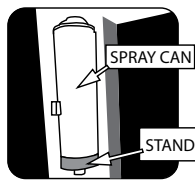
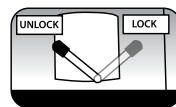

FIG. 4
FIG. 5
7. Move lever into unlocked position (Fig. 5), then place Maxima XTEND Spray (570-0073) on stand (Fig. 4).
8. Ensure can nozzle is properly seated, then move lever into locked position (Fig. 5).